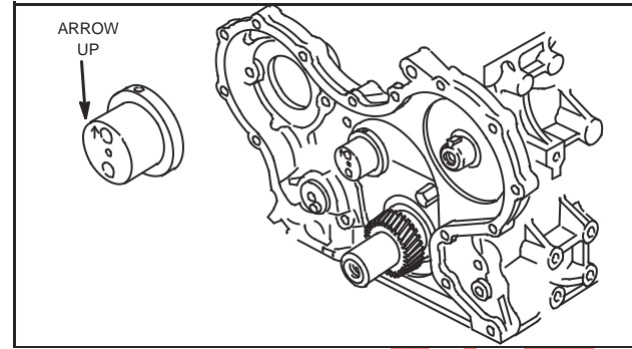

Fig. 17 – Installing Idler Gear Shaft
4. Assemble idler gear shaft with arrow up, as shown in Fig. 17.